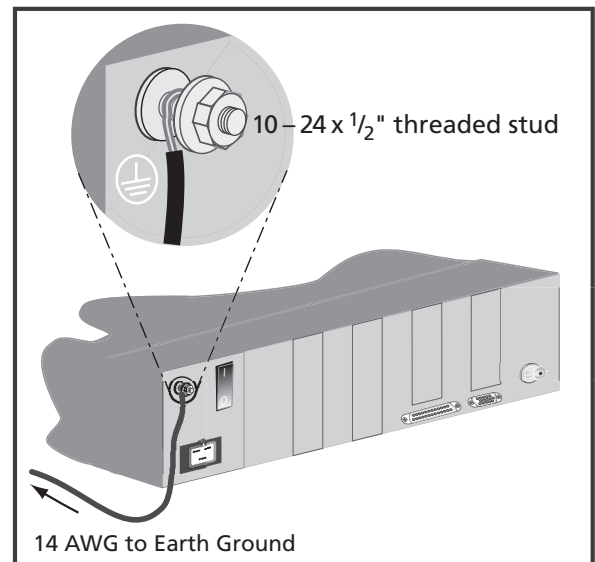

Figure 2-4 DPC Grounding Arrangement
In addition to the safety considerations, proper grounding at the generator power cord is essential for the effective suppression of RFI (Radio Frequency Interference). Every DPC contains a RFI filter which blocks noise on the AC power line from entering the DPC control circuitry. This filter also prevents ultrasonic RFI from being fed back into the AC power line. In order for the RFI filter to operate properly, it is necessary to adequately ground the DPC. Run an additional grounding wire from the rear grounding connection (see Figure 2-4) to the nearest grounded metal pipe or equivalent earth ground by means of a ground clamp. Use at least an 14 AWG ^③ wire for the connection to the DPC chassis. Stranded is more flexible and easier to work with than solid wire. However if you use stranded wire, crimp spade lugs on the end to ensure a good connection. If you have a color choice, green is the commonly accepted color for an electrical ground connection.